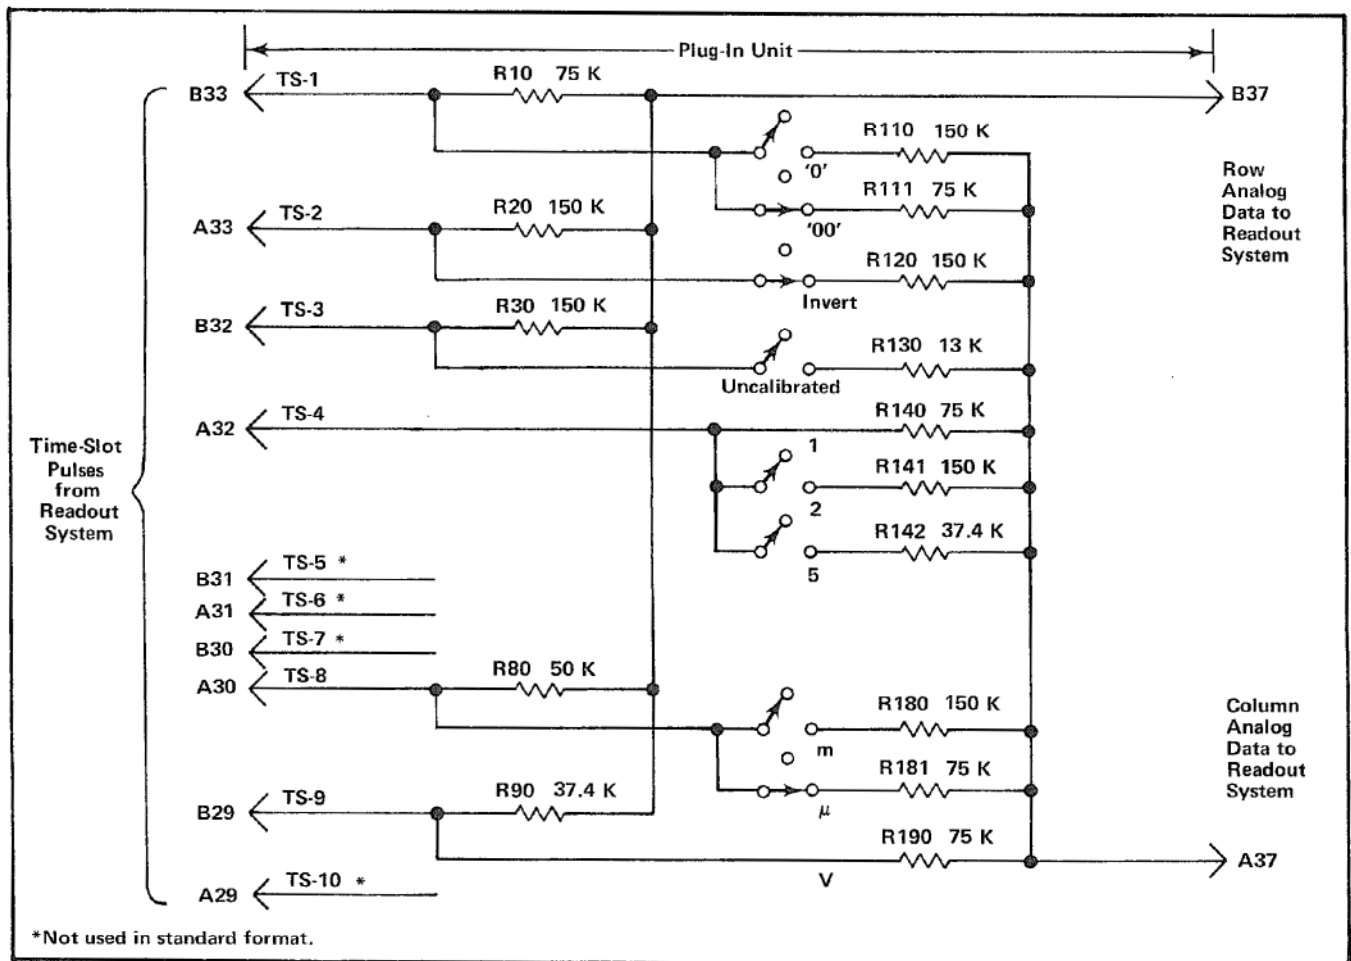

Fig. 2-40. Typical encoding scheme for voltage-sensing plug-in unit. Coding shown for deflection factor of 100 microvolts.
Data is conveyed from the plug-in units to the Readout System in the form of an analog (current level) code. The characters that can be selected by the encoded data are shown on the Character Selection Matrix (see Fig. 2-33). Each character requires two currents to define it; these currents are identified as the column current and the row current, corresponding to the column and row of the matrix. The column and row data is encoded by programming the plug-in units. Figure 2-40 shows a typical encoding scheme using resistors for a voltage-sensing amplifier plug-in unit. Notice that the 10 time-slot (TS) pulses produced by the Time-Slot Counter stage are connected to the plug-in unit. However, time-slots 5, 6, 7, and 10 are not used by the plug-in unit to encode data when using the Standard Readout Format (see Table 2-2 for Standard Readout Format). The amplitude of the time-slot pulses is exactly -15 volts as determined by the Timer stage. Therefore, the resultant output current from the plug-in units can be accurately controlled by the programming resistors in the plug-in units.
For example, in Fig. 2-40 resistors R10 through R90 control the row analog data, which is connected back to the Readout System. Figure 2-41A shows an idealized output current waveform of row analog data, which results from the time-slot pulses. Each of the row levels of current shown in these waveforms corresponds to 100 microamperes of current. The row numbers on the left-hand side of the waveform correspond to the rows in the Character Selection Matrix (see Fig. 2-33). The row analog data is connected back to the Readout System via terminal B37 of the plug-in interface.
The Column analog data is defined by resistors R110 through R190. The program resistors are connected to the time-slot lines by switch closures to encode the desired data. The data as encoded by the circuit shown in Fig. 2-40
The column analog data encoded by most plug-in units can be modified by attenuator probes connected to the input connectors of amplifier plug-in units. A special coding ring around the input connector of the plug-in unit senses the attenuation ratio of the probe (with readout-coded probes only). The probe contains a circuit which provides additional column current. For example, if a 10X attenuator probe is connected to a plug-in unit encoded for 100 microvolts as shown in Fig. 2-40, an additional unit of current is added to the column analog data during time-slot 1. Since two units of current were encoded by R111 (see Fig. 2-40), this additional current results in a total of three units of column analog current during this time-slot. Referring to the Character Selection Matrix, three units of column current, along with the two units of row current encoded by R10, indicates that the prefix should be shifted one column to the left. Since this instruction occurs in the same time-slot that previously indicated that two zeros should be added to the display and only one instruction can be encoded during a time-slot, the zeros do not appear in the display. The CRT readout will now be changed to 1 mV (readout program produced by plug-in same as for previous example).
Finally, memory C is interrogated during time-slot 8 to obtain information on whether the prefix should be changed, or left at the value that was encoded. If data has been encoded that calls for a shift in prefix, a negative-going output level is produced at pin 7. This negative level subtracts one unit of column current from the data at the input to the Column Decoder. Notice on the Character Selection Matrix of Fig. 2-33 that when row 4 is programmed, a reduction of one column results in a one-column shift of the prefix. For example, with the 100 μ V program shown in Fig. 2-40, if the data received from the plug-in called for a shift in prefix, the CRT readout would be changed to 1 mV (zeros deleted by program; see Encoding the Data).